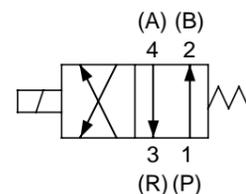

Fig 4
1. Ensure gasket ⑨ is correctly fitted.
2. Offer valve up to manifold-subplate ②.
3. Tighten the two mounting screws ⑩ to the torque show below (Fig 4).